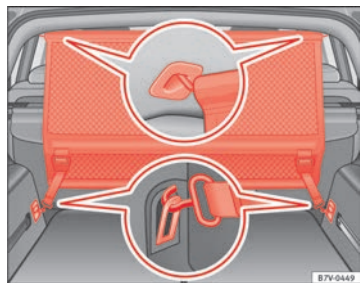

Fig. 95 In the luggage compartment: Install the net partition behind the second row of seats
- Hook in the net partition on the left-hand side roof support ⇒ Fig. 95. To do this, guide the rod from up to down.
- Secure the net partition hooks into the straps in the front of the luggage compartment ⇒ Fig. 95 then tighten them. ▶
- Hook in the net partition on the left-hand side roof support ⇒ Fig. 95 **C**. To do this, guide the rod from up to down.
- Release the net partition hooks from the rings ⇒ Fig. 95.
- Release the net partition from the right and left roof supports ⇒ Fig. 95 or by pressing on the rod.